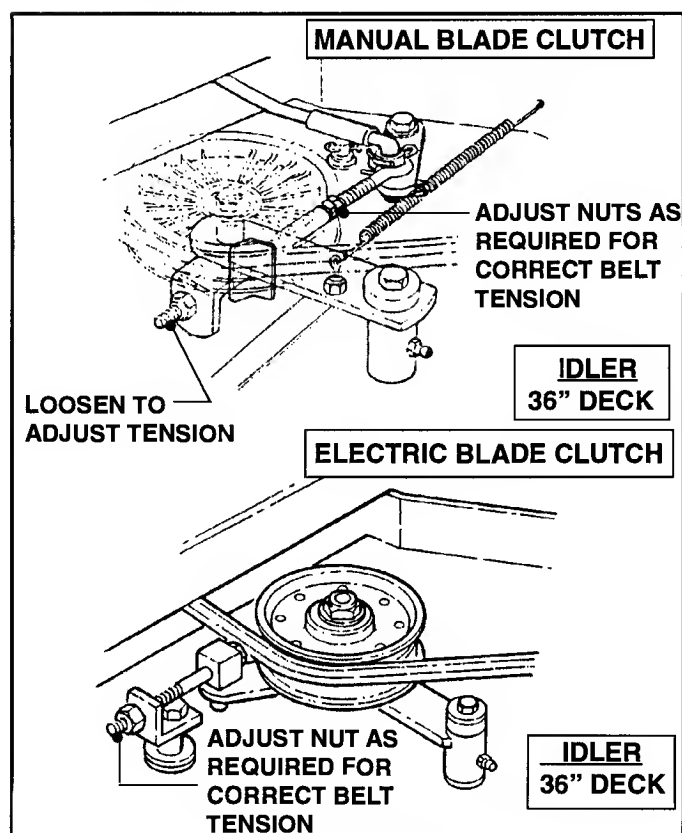

FIGURE 5.27
4. If Belt needs adjusting, tighten or loosen the Idler Pulley until Belt tension is correct. See Figure 5.27.